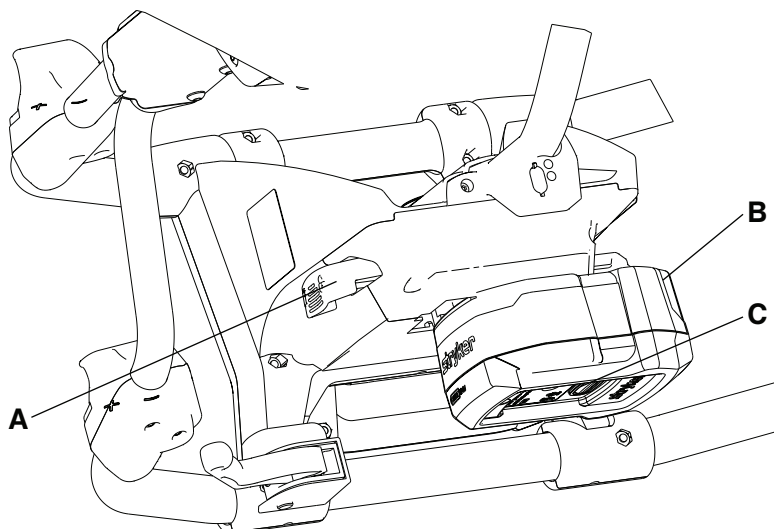

Figure 53 – Releasing the battery
1. Press the red one hand release button (C) or press the battery release button (A) to release the **SMRT Pak** (B) from the cot (Figure 53).